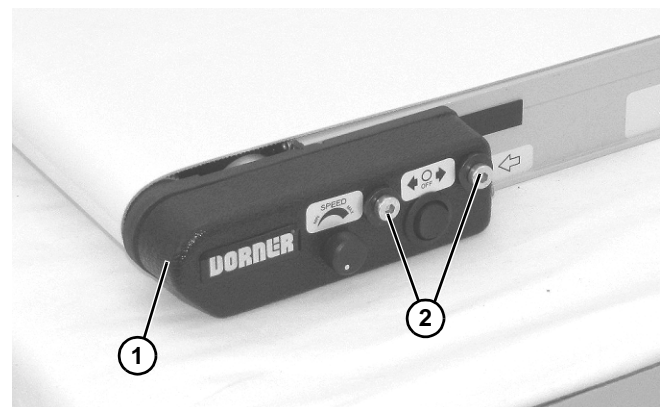

Figure 48
2. Remove inframe drive side cover (**Figure 48, item 1**) by removing two iDrive cover screws (**Figure 48, item 2**).
- Unplug motor connector (Figure 48, item 1) from cover wiring connector (Figure 48, item 2).